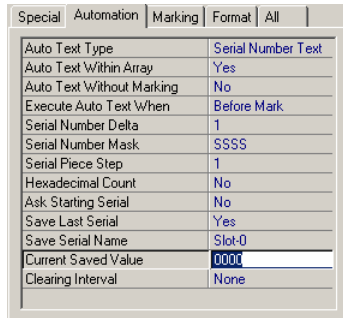

Figure 11-8 Serialization setup
- 7 Select Current Saved Value. If the value displayed is not zero, zero it out (0000 in our example) to initialize the serial number counter. Figure 11-8 shows how the screen should look after this step.